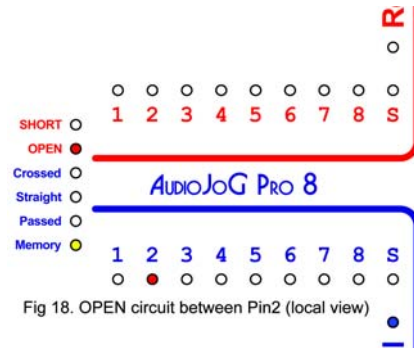

Fig 18. OPEN circuit between Pin2 (local view)
6. If the OPEN LED turns ON, then the AudioJoG™ Pro 8 has found a missing connection between the cable details in memory and the current cable. The numbered and screen LED's will stop at the error stage (Fig18).